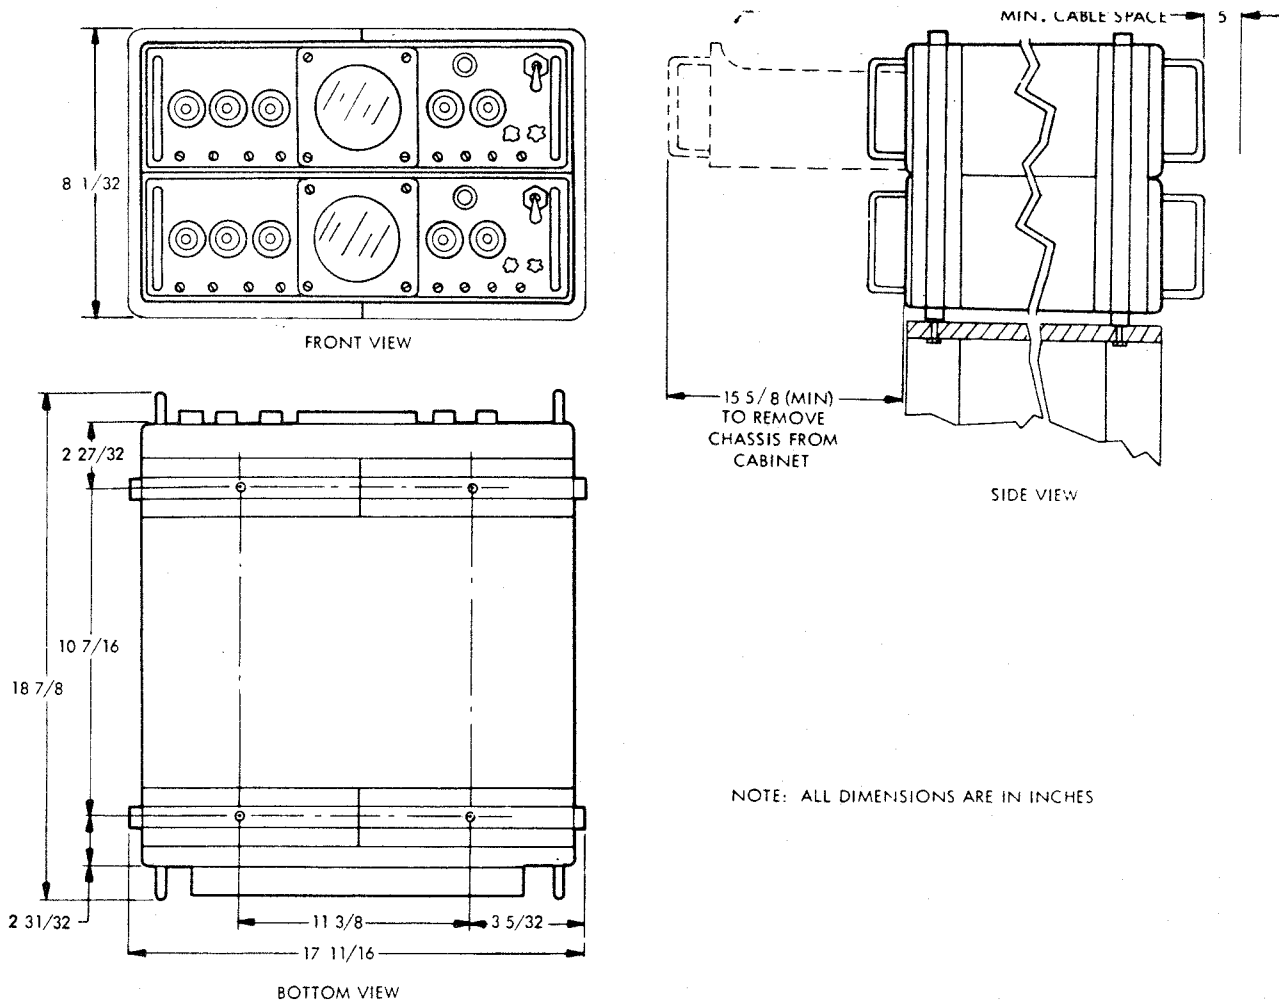
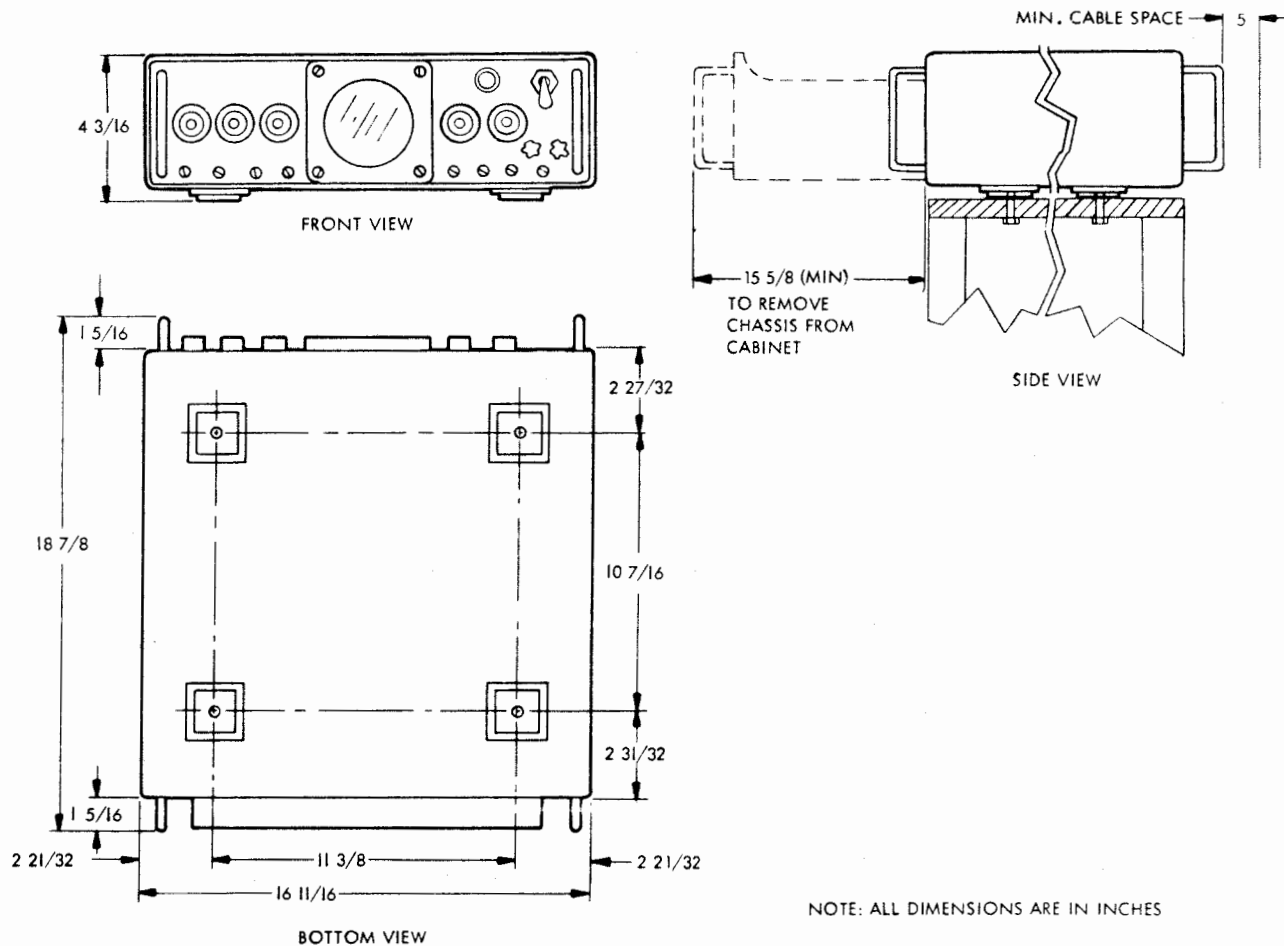
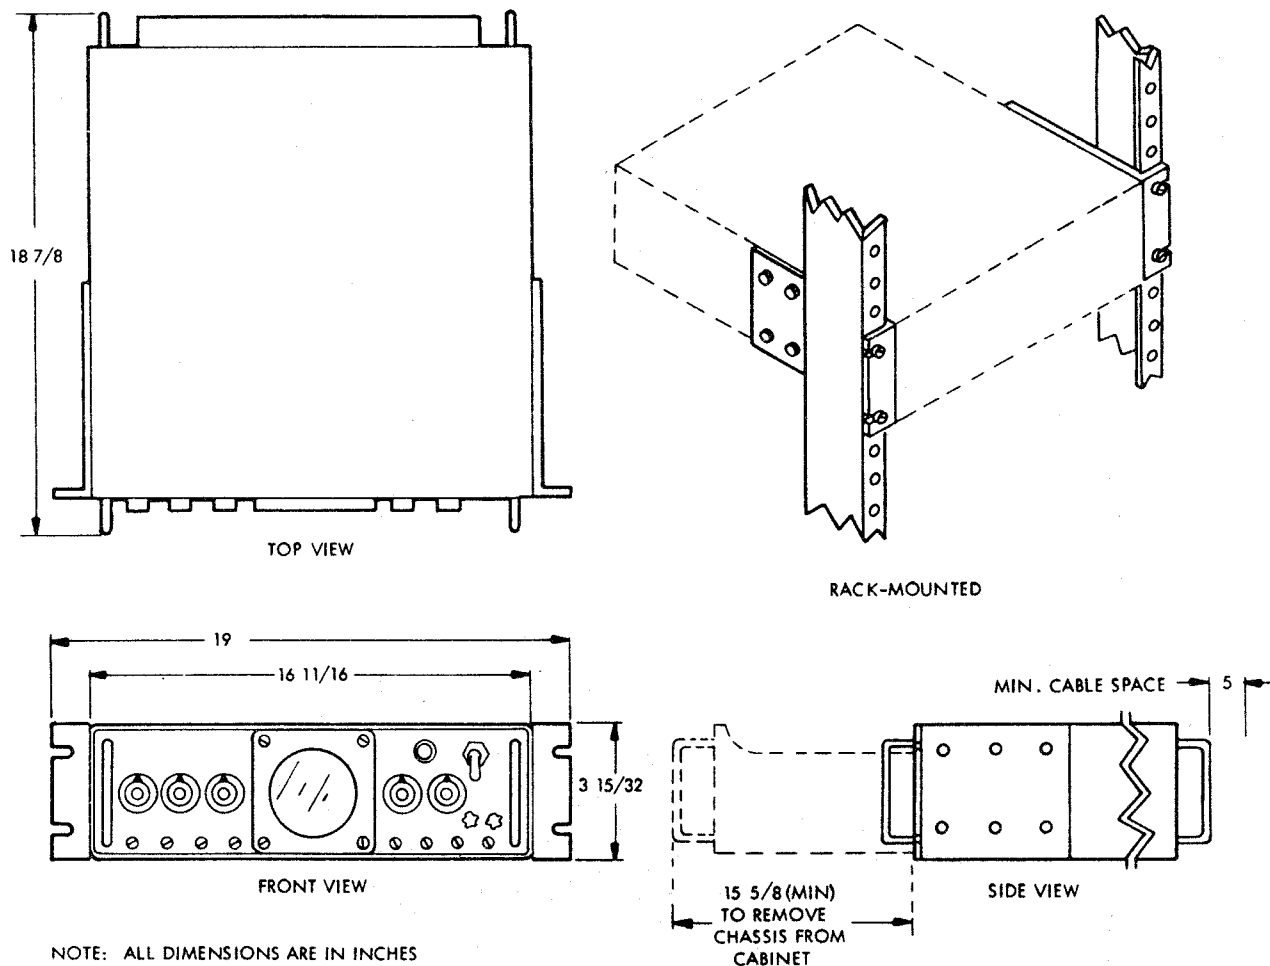

Figure 2-1. Comparator-Converter Group AN/URA-17D,
Figure 2-2. Frequency Shift Converter CV-483D/URA-17,
Figure 2-3. Frequency Shift Converter CV-483D/URA-17, Rack-Mounting Installation Drawing
- Figure 2-1 shows all mounting dimensions and clearances required for table-mounting the AN/URA-17D. Figure 2-2 shows all mounting dimensions and clearances required for table-mounting the CV-483D/URA-17. Figure 2-3 shows all mounting dimensions and clearances required for rack-mounting the CV-483D/URA-17.
(1) TABLE-MOUNTING THE AN/URA-17D. - Table-mounting of the AN/URA-17D is performed as follows
- Step 1    Layout and drill four 9/32 inch holes (figure 2-1) through mounting surface.
(2) TABLE-MOUNTING THE CV-483D/URA-17. - Table-mounting of the CV-483D/URA-17 is performed as follows
- Step 1.    Layout and drill four 9/32 inch holes (figure 2-2) through mounting surface.
(3) RACK-MOUNTING THE AN/URA-17D. - Rack-mounting of the AN/URA-17D is performed as follows
- Step 2.    Remove 10-32 binder-head screws (six on side of each cabinet, figure 2-3).
- Step 3.    Fasten rack-mounting brackets on each cabinet, using screws just removed (figure 2-3). Tighten screws securely.
(4) RACK-MOUNTING THE CV-483D/URA-17. - Rack-mounting of the CV-483D/URA-17 is performed as follows
Step 1. Remove 10-32 binder-head screws (six on each side of cabinet, figure 2-3).
Step 2. Fasten rack-mounting brackets on cabinet, using screws just removed (figure 2-3). Tighten screws securely.